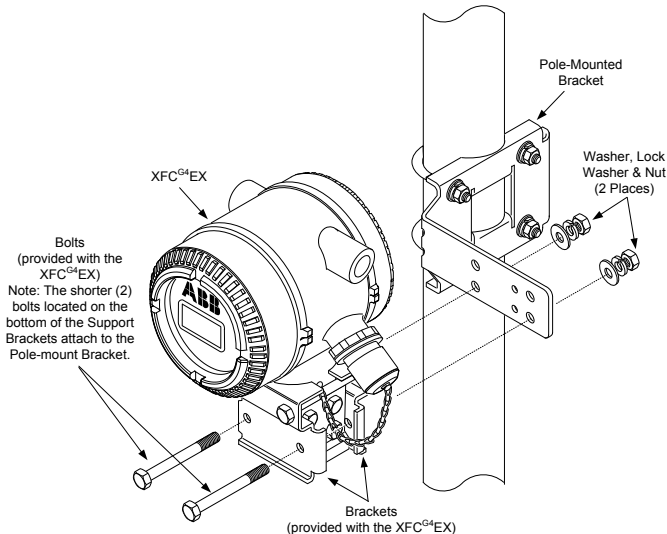

Fig. 4: Type B installation configuration
1. Remove the lower two hex screws and associated hardware from the transducer's attached mounting brackets. Align the transducer's bottom mounting holes with those on the pole mount bracket (Fig. 4).